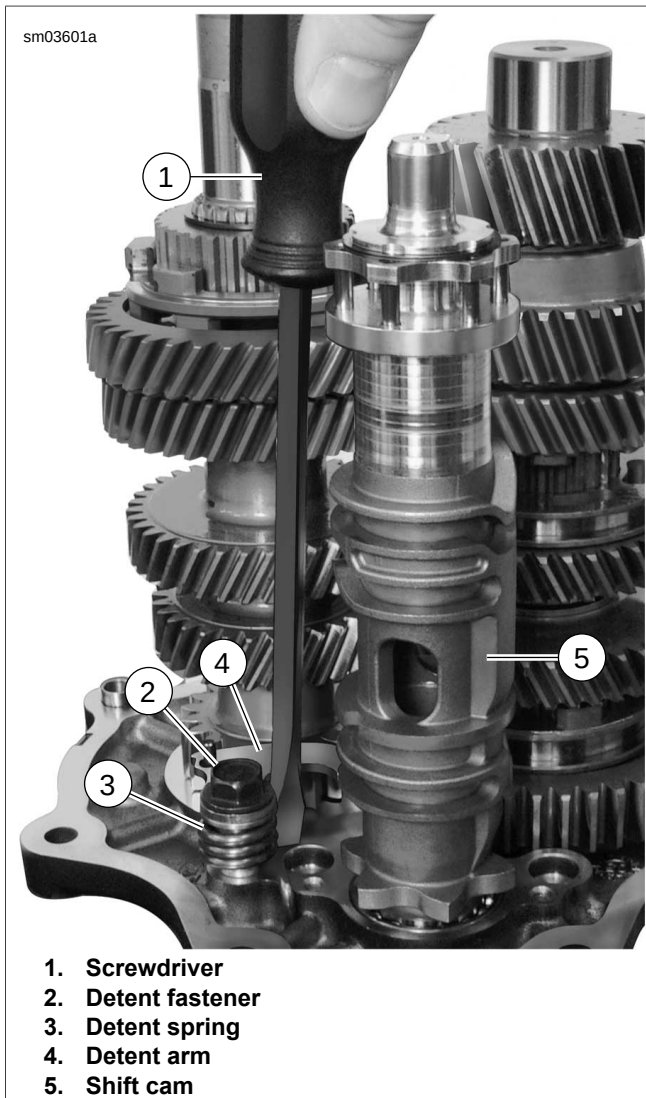
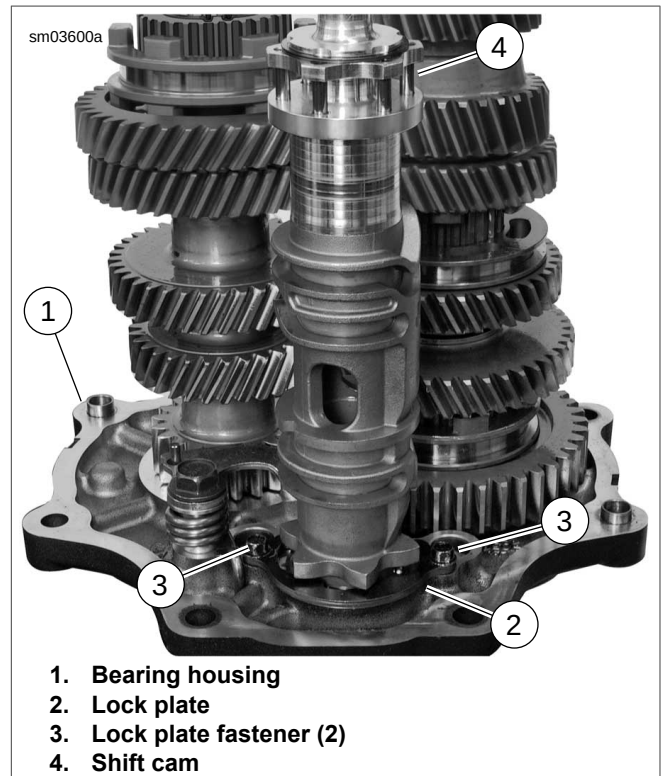

Figure 6-29. Detent Assembly
Figure 6-30. Shift Drum
6. See Figure 6-29. Using screwdriver (1), pull detent arm back to allow installation of shift cam assembly.
7. Install shift cam assembly (5).
8. See Figure 6-30. Install lock plate (2) and **new** lock plate fasteners (3). Tighten to 57-63 **in-lbs** (6.4-7.1 Nm).